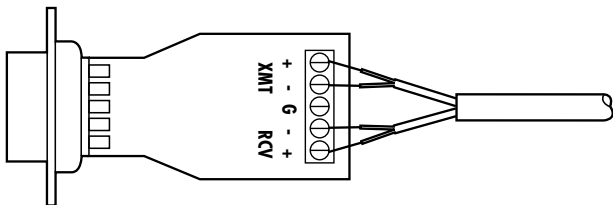

Figure 4-5. Wires connected to the terminal block.
7. When you finish connecting the wires to the terminal block, the assembly should resemble **Figure 4-5**.